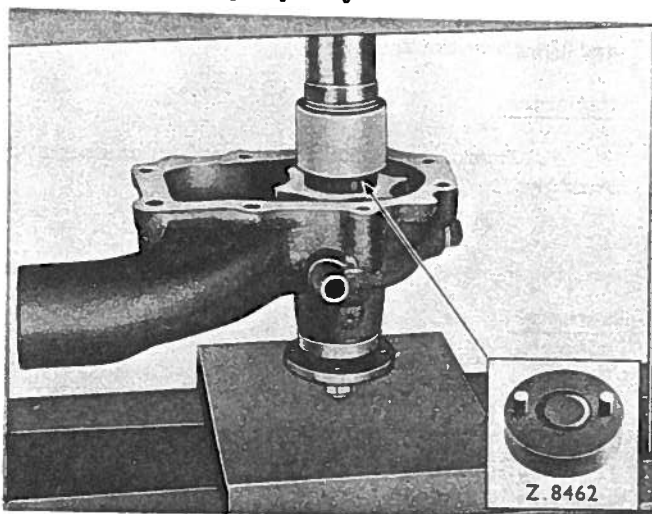

Fig.11. Pressing on the pump rotor, using the installer shown inset. The installer pegs engage the rotor.
5. Press on the rotor, using Installer Z.8462 (Fig.11). The installer ensures that the rotor is located to provide the correct clearance between the impellers and the pump body.